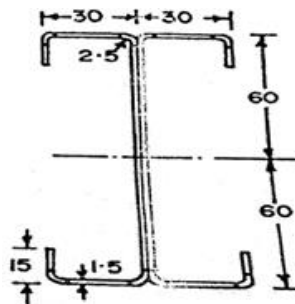

Figure 5
6. The Figure 5 below shows the section of a beam which is laterally supported at an interval of 1.5 m. Taking  $C_b=1.0$ , Determine the allowable bending moment for the section. Take  $f_y=235$  N/mm2 and  $E= 2 \times 10^5$  N/mm2 [12M]